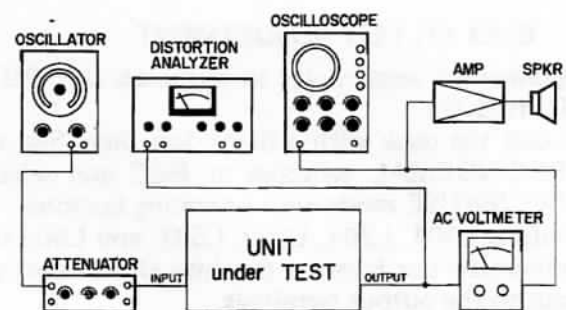

Fig. 6-6
- 1) Connect measuring instruments as shown in Figure 6-6.